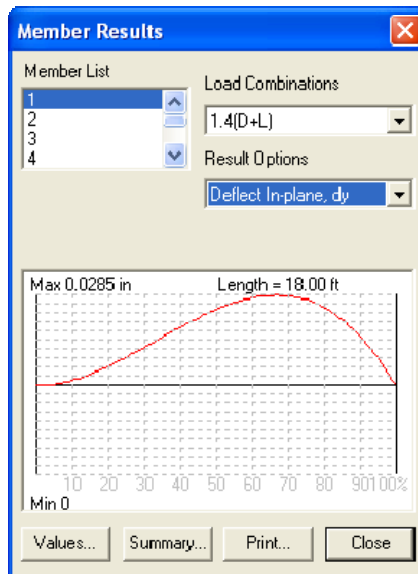

Figure 3-41 Member Results dialog box
- From the Analyze menu, select Member Results. The box of Figure 3-41 appears.